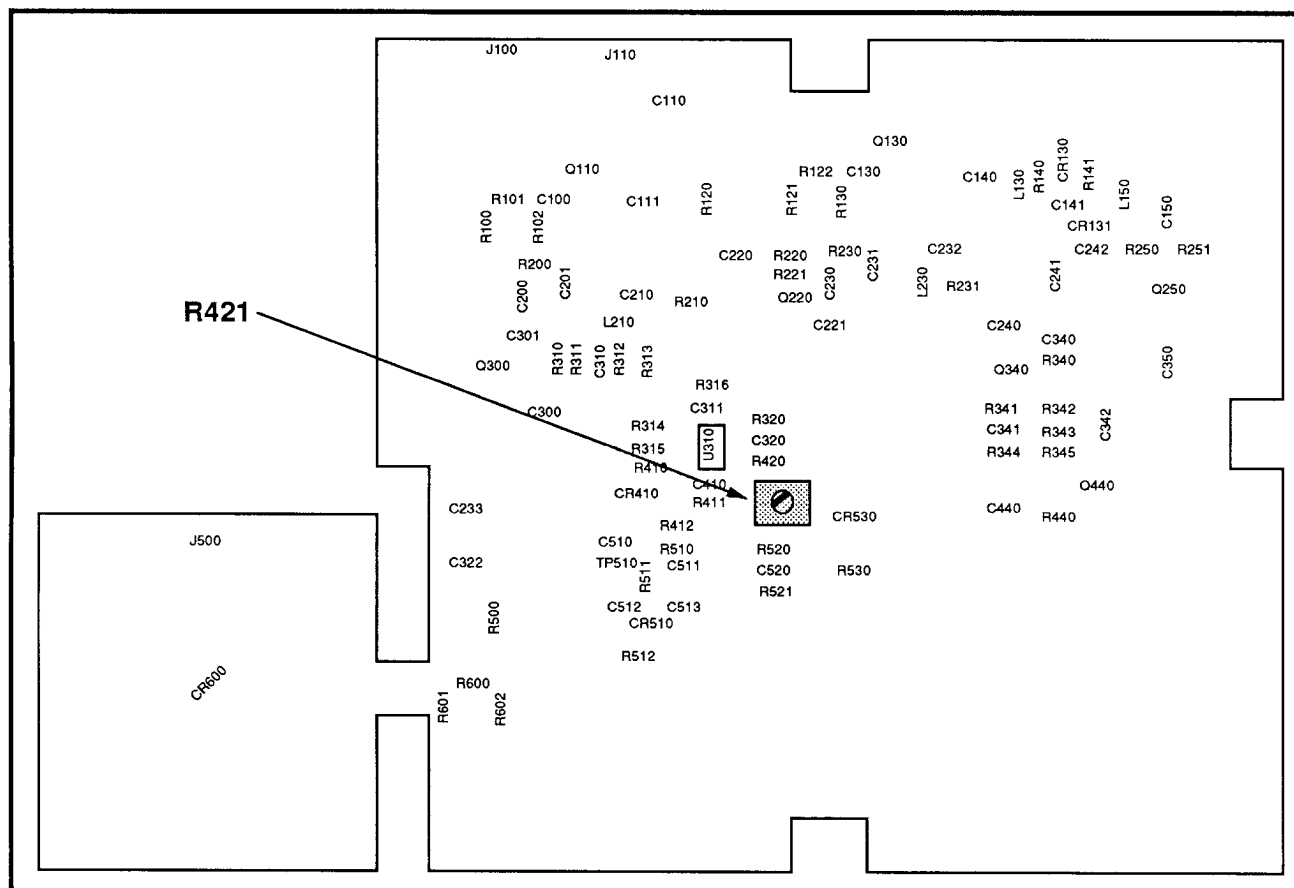

Figure 4-14. Adjustment location on the Isolation Amplifier board.
- (d) Adjust R421 (Output Level) on the Isolation Amplifier board for -50 mV DC as viewed on the test oscilloscope. See Figure 4-14 for the location of R421.